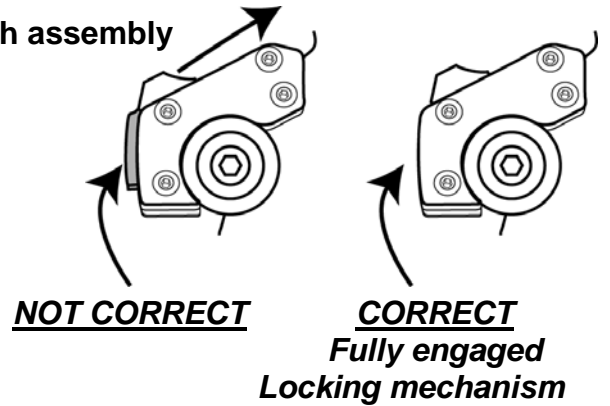

Fig. 7
6. Adjust the height, angle and alignment of the windshield and tighten **ALL** bolts. (fig. 7)